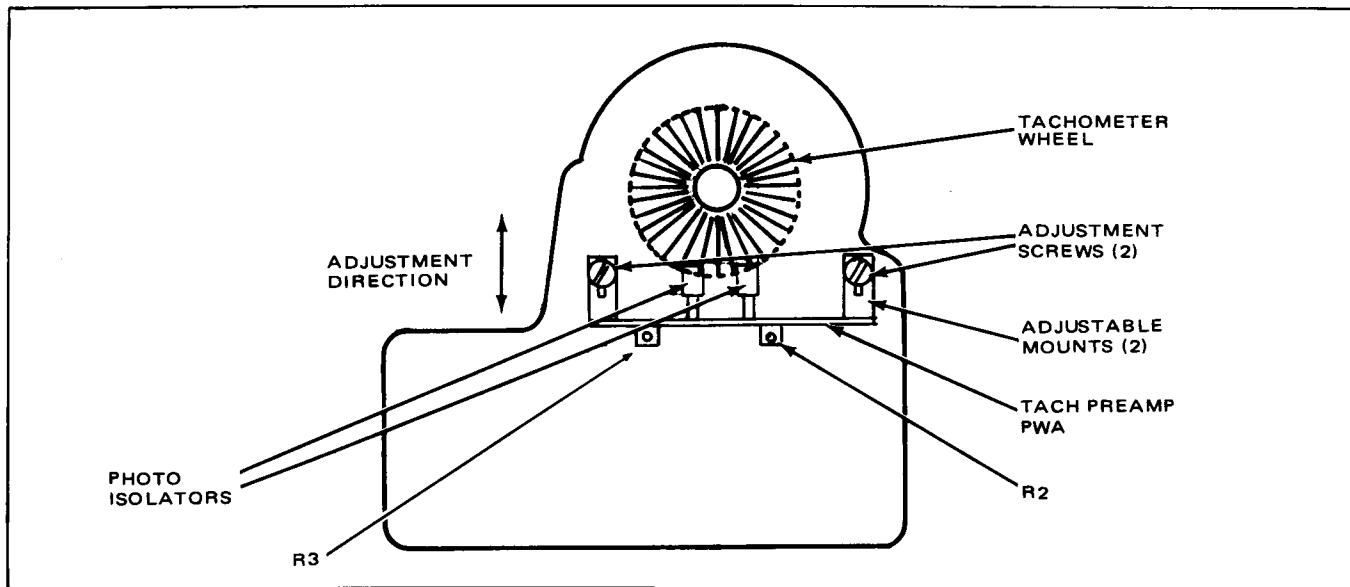

Figure 5-9. Tachometer Preamp Adjustment
2. Position the tach preamplifier at approximately mid-range of its adjustment as shown on Figure 5-9.